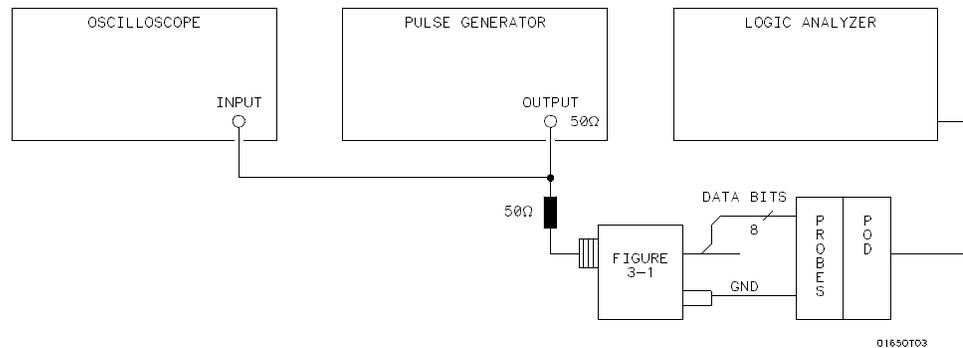

Figure 3-29. Setup for Glitch Test
1. Connect the test equipment as in figure 3-29. The clock inputs are not used for the glitch test since glitch detection is part of timing analysis. Use the oscilloscope to make sure pulses are 5 ns wide at the threshold (1.6 V).